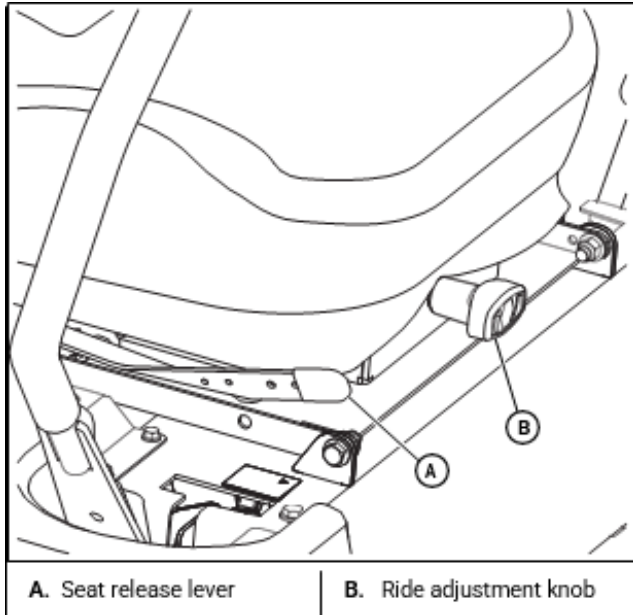

Figure 19
1. Use the seat release lever to slide the seat forward and rearward. [Figure 19]
2. Adjust the seat firmness by turning the ride adjustment knob. [Figure 19]